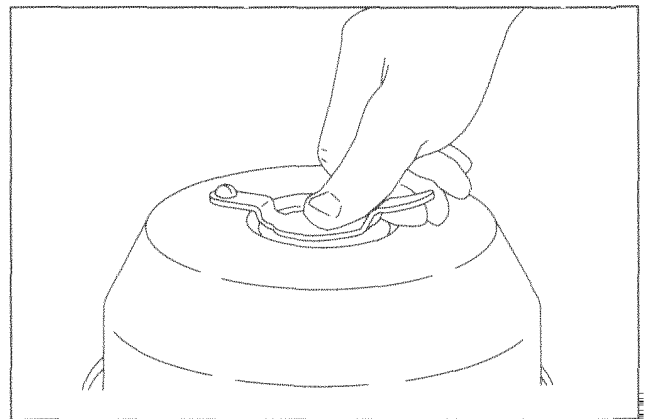

Fig. 8, Snap the Dust Plug in Place
3. Snap the dust plug in place over the center-hole in the chamber head. See Fig. 8.